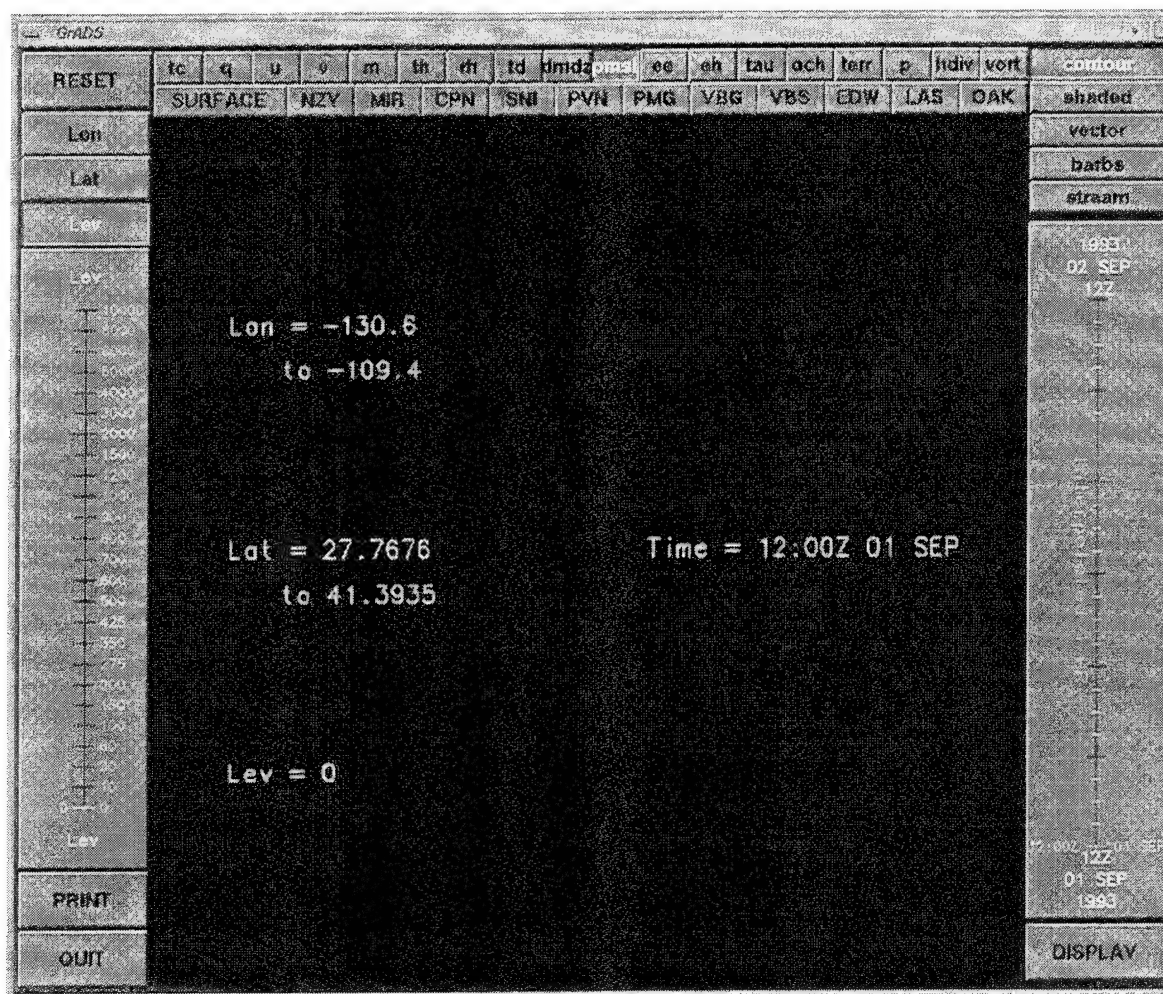

Figure 5. Customization of time interval.
4.5.3.2 Time interpolation. The time interval can be increased or decreased by clicking the '>' or '<' symbol, respectively. If an interpolated interval is selected the vertical time bar indicates the status (Fig. 5) and the interpolated time intervals are displayed with yellow tick markers on the time bar.